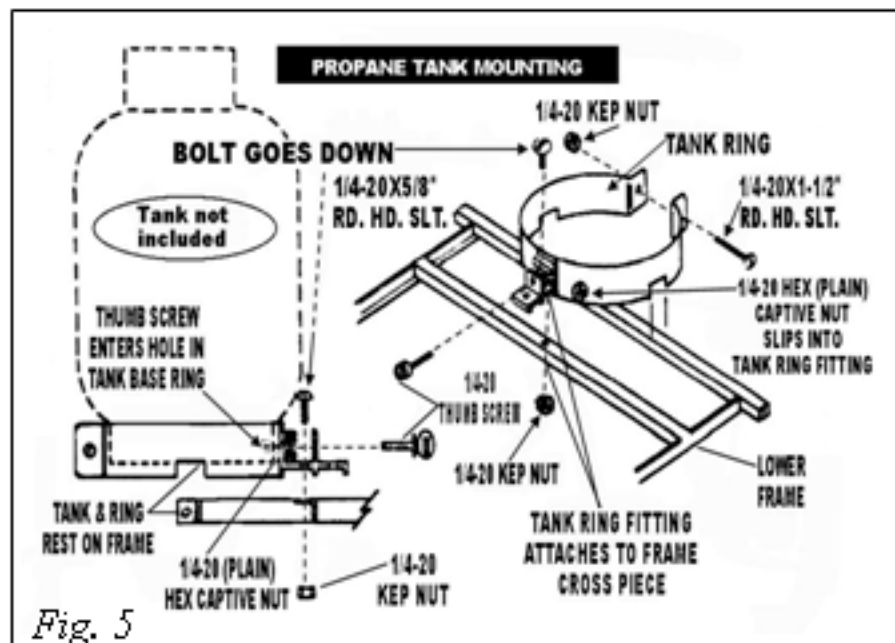

Fig. 5
Step 3: Tank Holder Ring Assembly For LP Gas Models (Fig. 5)